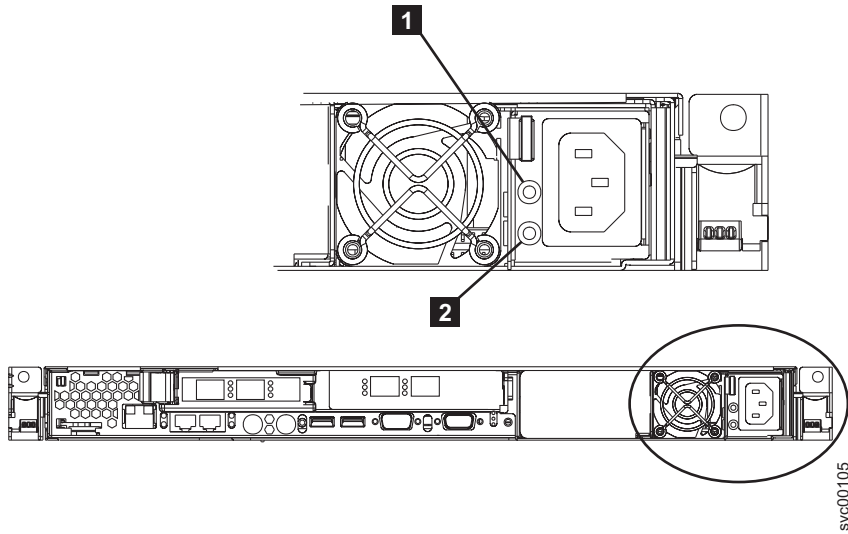

Figure 132. SAN Volume Controller 2145-8F2 or SAN Volume Controller 2145-8F4 ac and dc power LEDs
5. Make sure that the power-supply fan starts and the ac power LED **1** and dc power LED **2** (shown in Figure 132 on page 146) on the power supply are lit, indicating that the power supply is operating correctly.